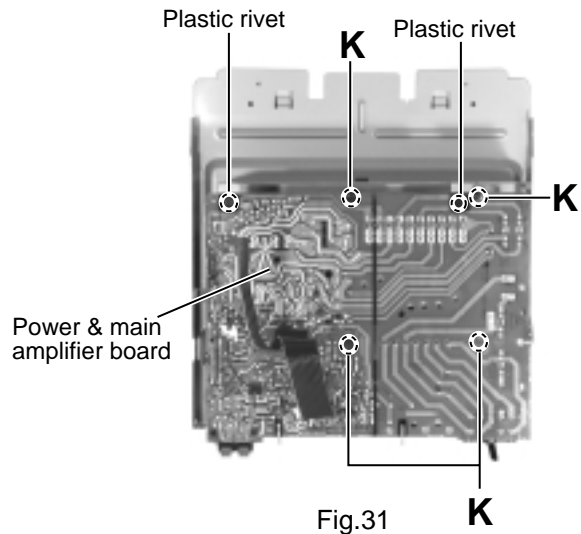

Fig.31
■ **Removing the power & main amplifier board (See Fig.31 and 32)**